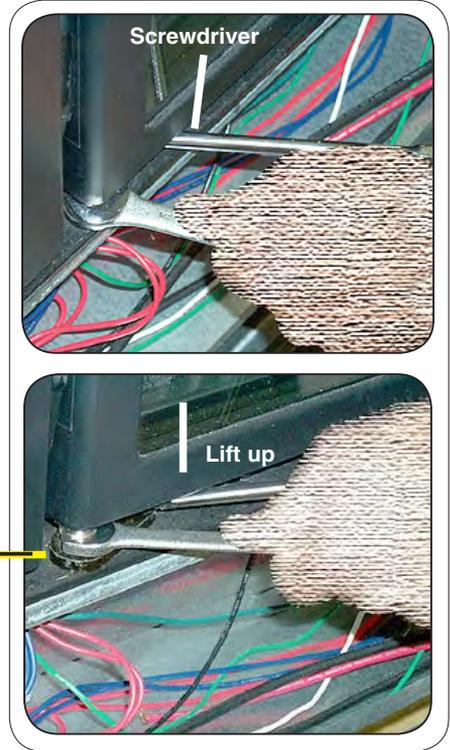

Figure 3. Loosening Torque on the Door
1. Loosen torque on door before removing the door. Wedge a screwdriver between the bottom of the door and the hinge socket, then lift the door up. This will lift the bottom hinge pin up and out of the bottom hinge socket. Hold the hinge pin with a $1/2$ in. (13 mm) open end wrench to keep it from spinning out and stripping the socket. See Figure 3.